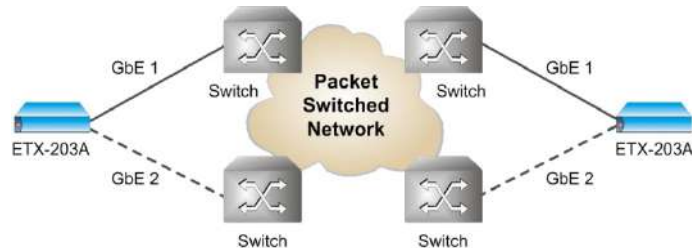

Figure 7-9. 1:1 Bidirectional Redundancy Mode (Dual Homing)
- Connection of the ports to different switch/routers, as illustrated in Figure 7-9. The main advantage of this topology is its higher availability, because each port can be routed along a different path through the network. This topology is also referred to as dual homing.